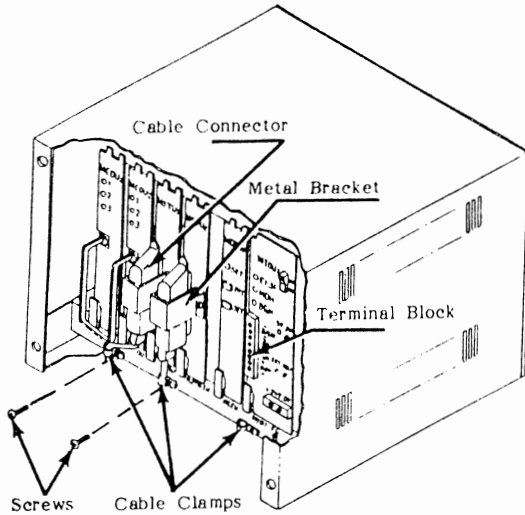
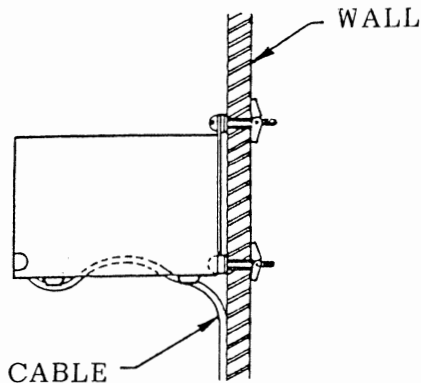

FIGURE 12
FIGURE 13
07.03 A 25-pair male-amphenol-ended cable is connected directly to the front of each MSTU PCB and fastened with the metal bracket that is provided (Figure 12).
07.04 Secure the cable(s) to the bottom of the MKSU shelf (Figure 12) using the plastic cable clamp(s) provided. Route the cable(s) under the MKSU and toward the rear, as shown in Figure 13.